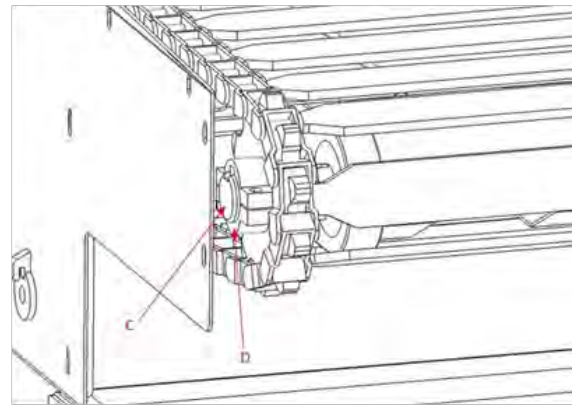

Figure 7-11b: Floor Shaft
On the opposite side of the shaft there is to be a spacing of 0.25" between the shaft end (C) and the sprocket (D). This is depicted in Figure 7-11b.